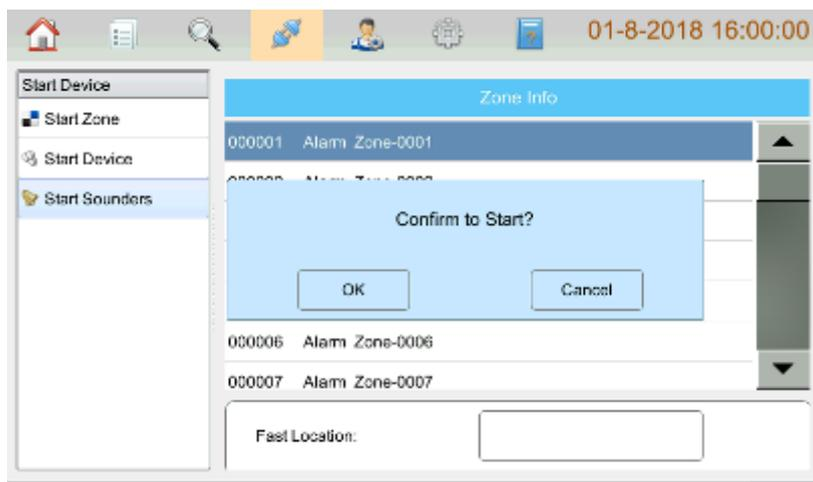

Fig 5.6
**Start Sounder:** Clicking **Start Sounder** enters the screen for starting sounders. Choosing a designated zone and then clicking **OK** can confirm to start all sounders in the zone. Refer to the figure below Fig 5.6.